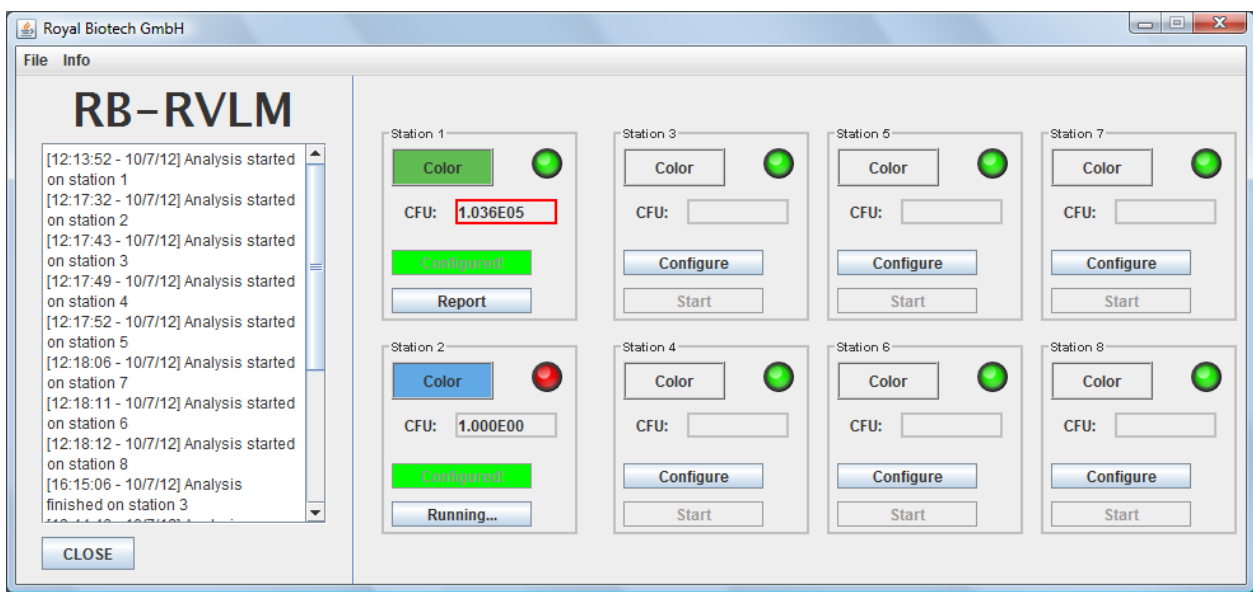

Fig. 15. RVLM – End of analysis on station number 1. Presence of microorganisms, contamination equal to 1.0364E05 CFU
- In both cases the stations lights come back to green colour and "Running ..." changes to "Report" (fig. 15 and fig. 16).